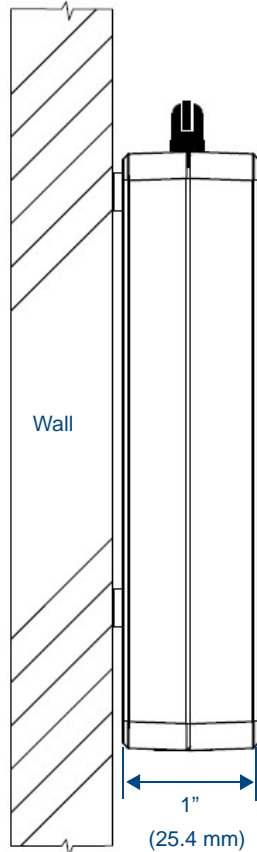
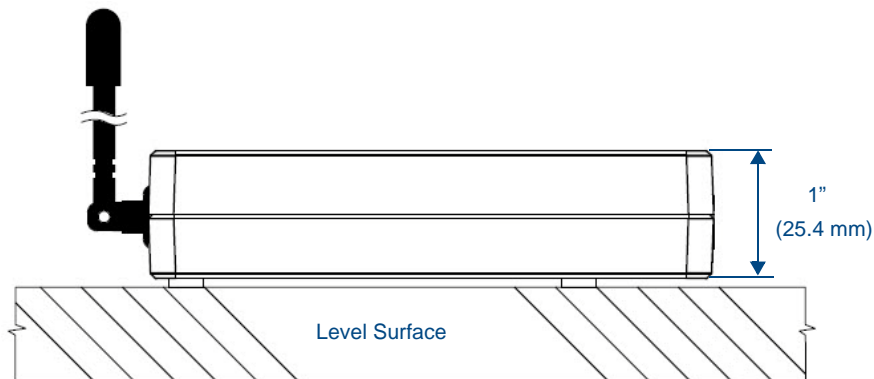
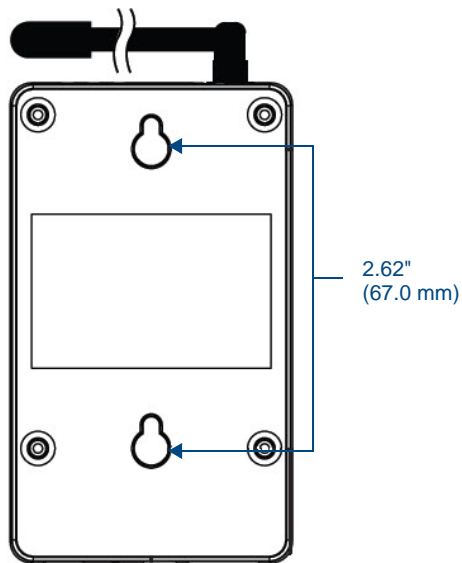

FIG. 3 NXB-CCG-K - Vertical Installation
FIG. 4 NXB-CCG-K - Horizontal Installation
FIG. 5 Underside of NXB-CCG-K
2. Mount vertically (FIG. 3) or horizontally (FIG. 4), using two #6 (M3) screws (FIG. 5). When mounting, allow 7 in (177.8 mm) clearance for the antenna and ensure convenient access to the power plug. In order to achieve proper RF performance, do not mount unit in a metal enclosure.